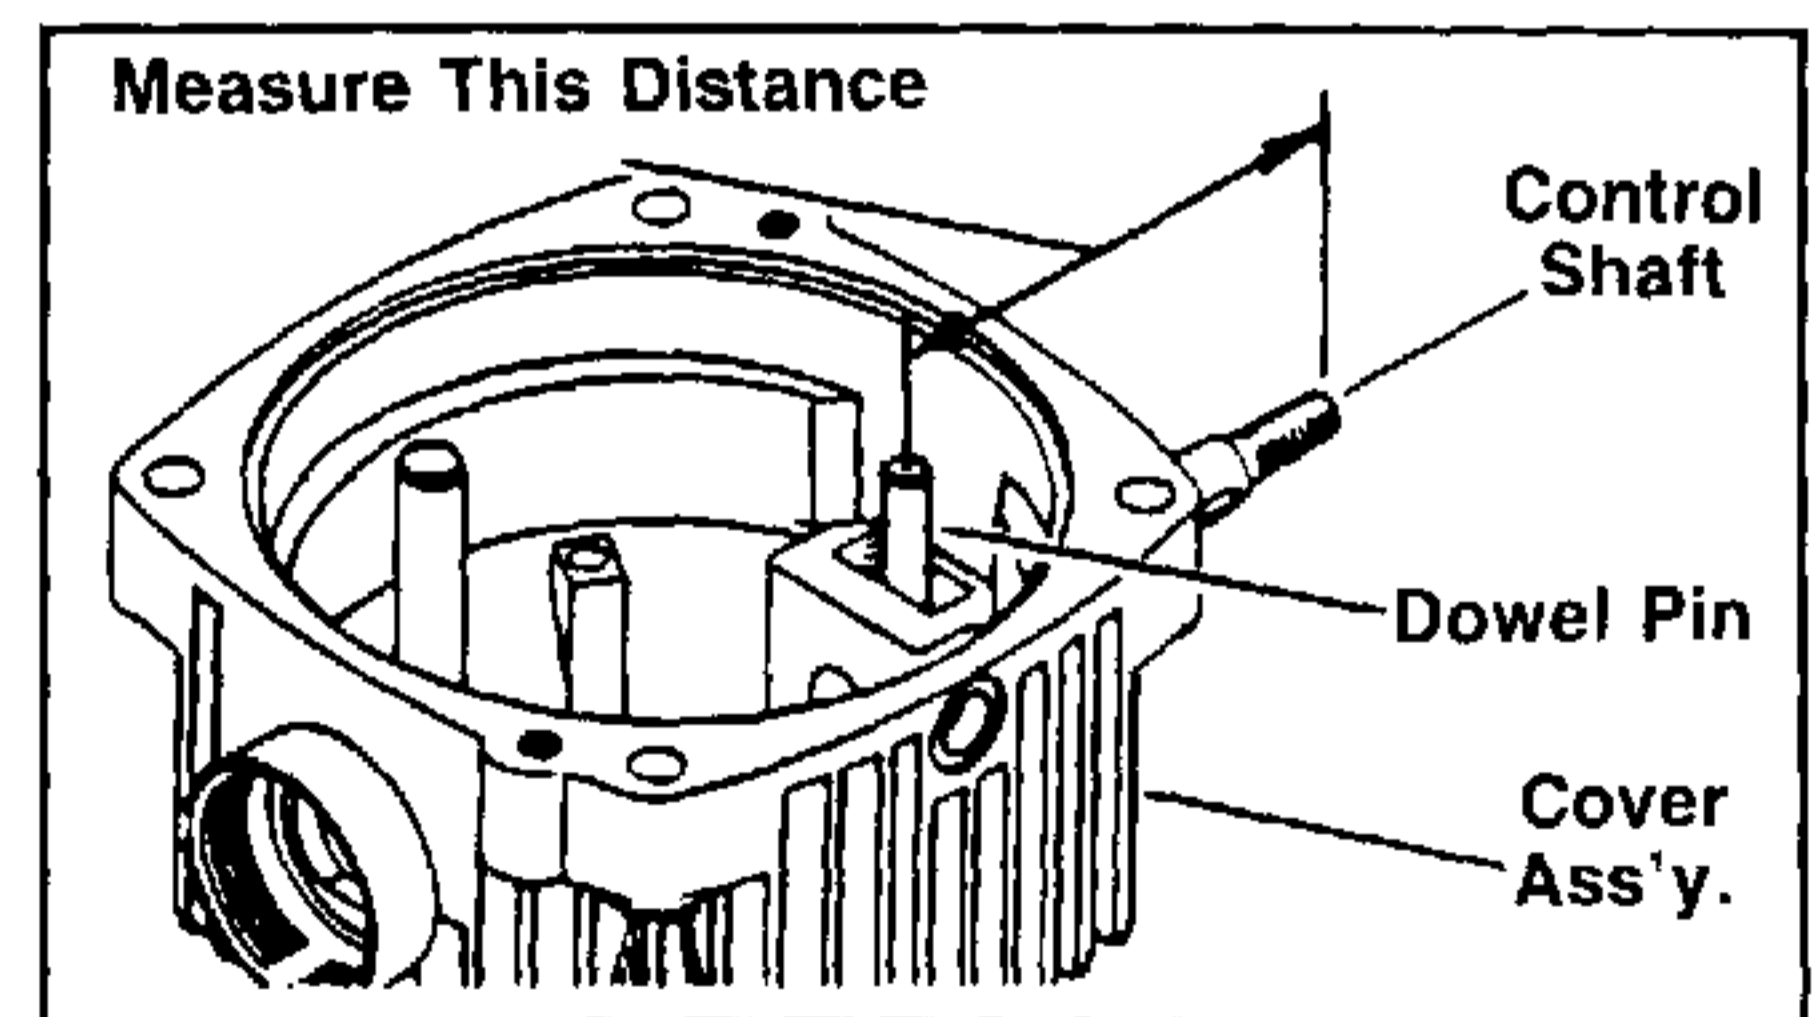

FIGURE 20.
35. Measure the distance between center of dowel pin and the end of the shaft as shown in figure 20.